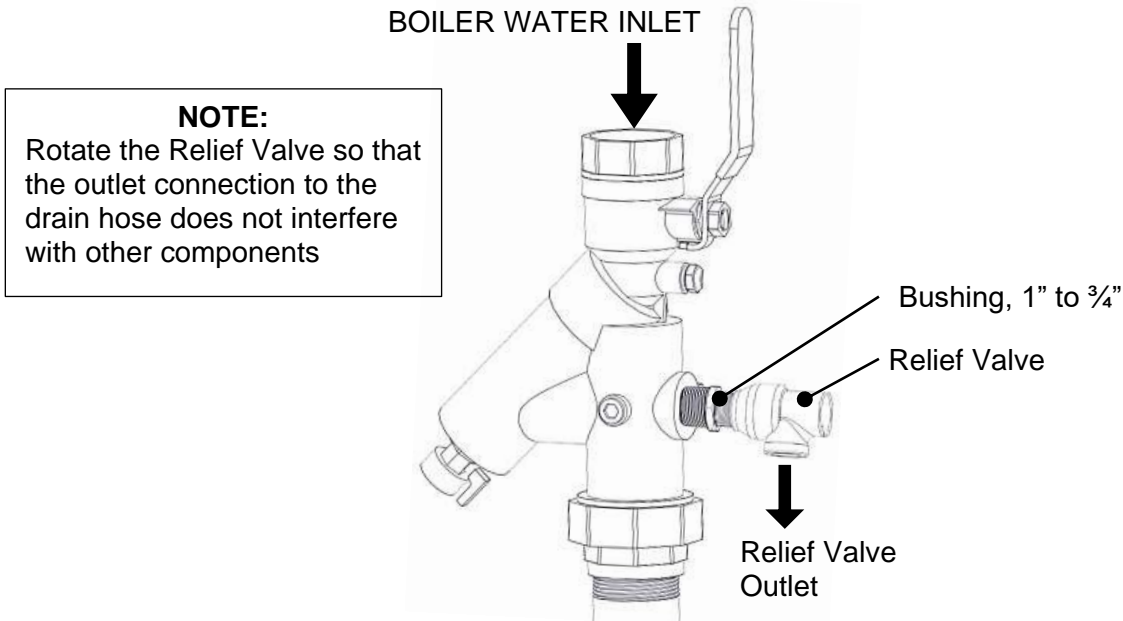

Figure 2.7-2. Relief Valve Installation – New York City Option
2. If the unit is being installed in New York City only in addition to the steps above you must install a second Relief Valve (P/N (kits **58202-2** or **58202-3**) in the Boiler Water Intake Ball Valve/Strain combo, as shown in Figure 2.7-2.